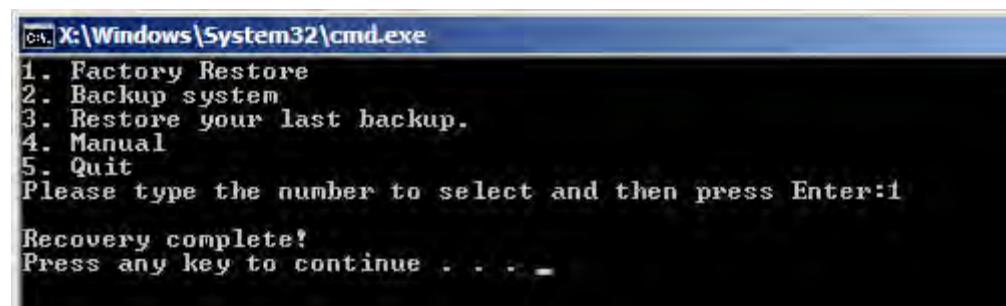

Figure B-28: Recovery Complete Window
Step 3: The screen is shown as in **Figure B-28** when completed. Press any key to reboot the system.